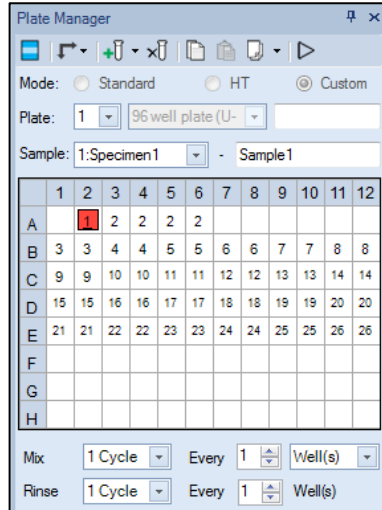

Figure 28. Plate Manager Panel after Experiment Samples Created
- 6 While pressing **Ctrl** key, left click well B1 and B2 to select both wells, click the **Duplicate Sample(s) on Selected Well(s)** button  in the **Plate Manager** panel toolbar 23 times to create the remaining 23 specimens and 46 samples. Sequentially rename each of the newly created specimens as **Name2**, **Name3**, etc. The created samples in the **Plate Manager** panel are shown in Figure 28.